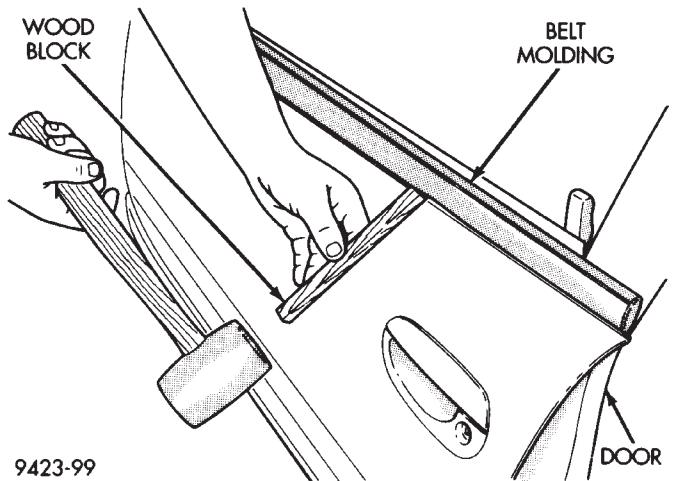

Fig. 22 Front Door Outer Belt Molding
- (1) Remove side view mirror.
- (2) Using a rubber mallet and block of wood, tap upward at each clip holding belt molding to door (Fig. 22).
- (3) Separate belt molding from door.